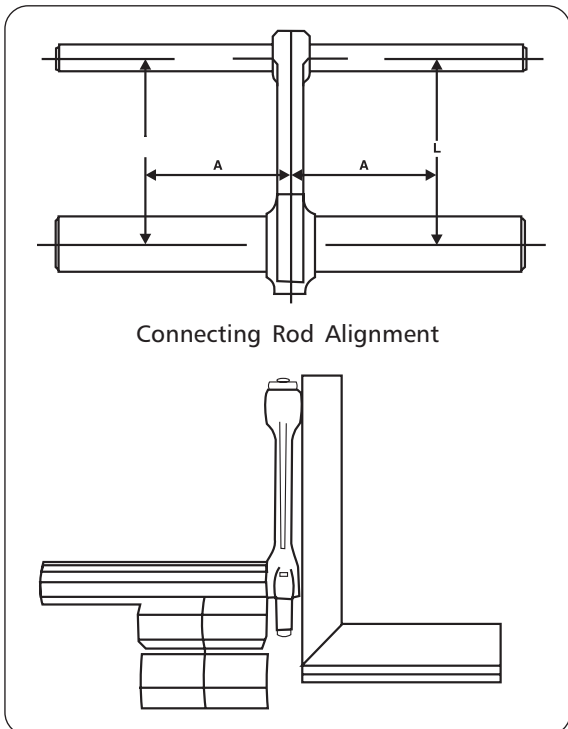

Fig. 6
- c) Check the connecting rods for alignment (Fig.6). The bores must be square and parallel with each other in all planes within $+0.12$ ($+0.005$ inch) (L-6) measured 127 mm (5 inches) each side of the centre line (A-6), if necessary realign by straightening the connecting rod or replace them.